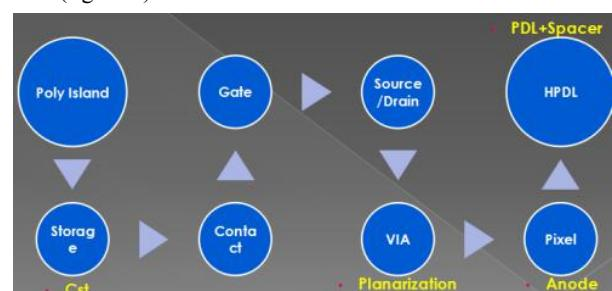

Figure 2. Arrangement of 8 mask top-gate TFT process
2.1. Structure and Solution: As the manufacturing technology develops, many kinds of LTPS solution has been come out. And mask number become less and less-10, 8, 5 mask solution. However, here we are going to discuss a common solution which uses 8 mask, P type Silicon, top gate and emission structure. The main arrangement of mask can be seen below(figure 2):